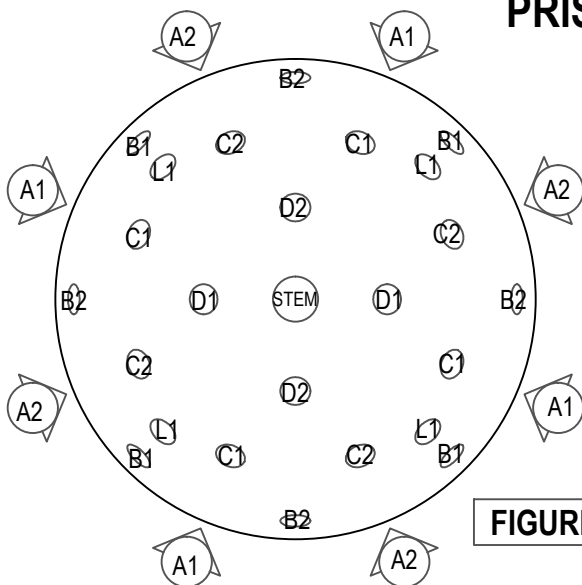

**FIGURE-2**
- This fixture is supplied with with a 4-pcs. stem. There is one 6" section, two 12" section and one 18" section. This feature allows the fixture to be mounted with a stem up to 48" in length in 6" increments (See figure-2)